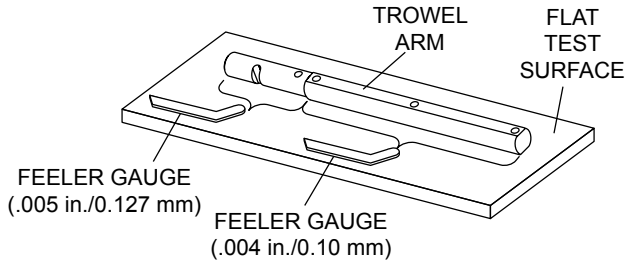

Figure 42. Checking Trowel Arm Flatness
2. Check each of the six sides of the trowel arm (hex section). A feeler gauge of .004" (0.10 mm) should not pass between the flat of the trowel arm and the test surface along its length on the test surface. (Figure 42).